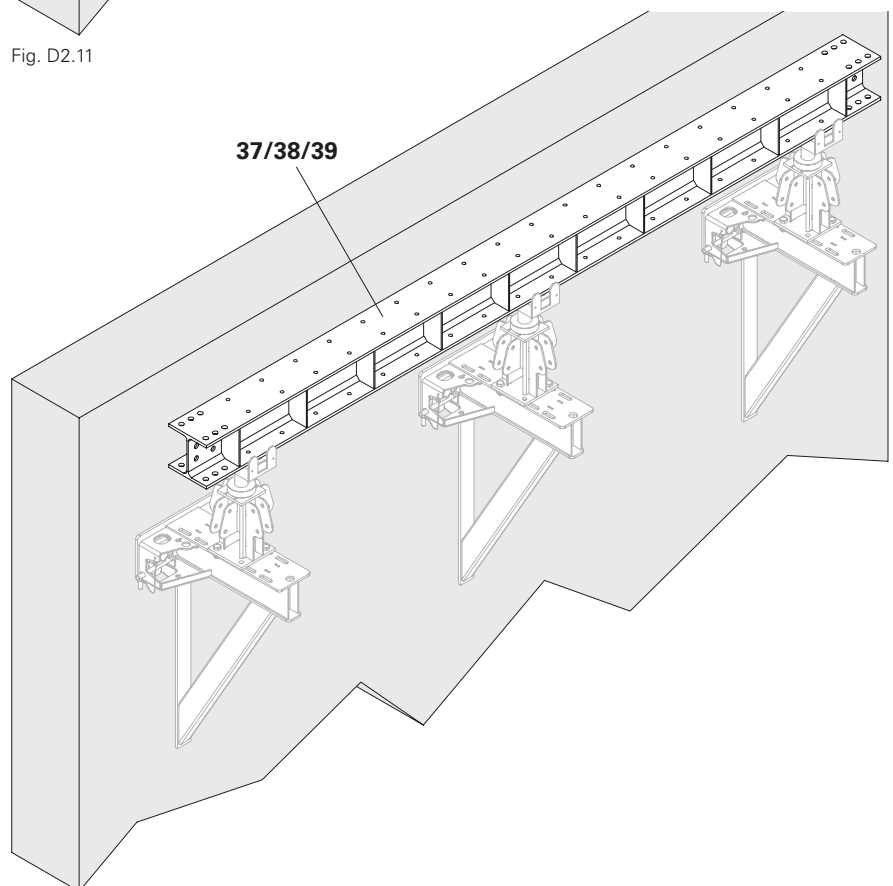

Fig. D2.12
1. Install main beam (37/38/39). (Fig. D2.12)